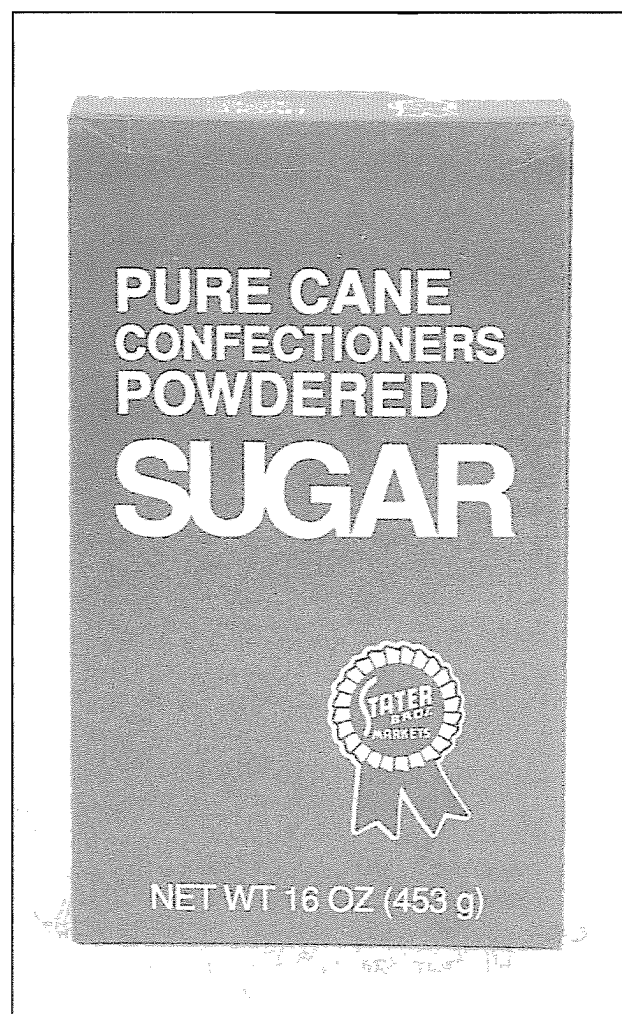

Figure 6-38. A box of powdered confectioner's sugar. It makes a cheap and convenient rocket fuel.
**Powdered sugar** (chemical formula  $C_{12}H_{22}O_{11}$ ), also called **sucrose** or **confectioner's sugar**, is the fine, white sugar used in cake frosting. Figure 6-38 is a photo of a box that I bought at a supermarket. The manufacturers add a small amount of corn starch, but not enough to keep it from being used as a cheap and convenient rocket fuel. Its only drawback is that a rocket propellant made with sugar and a nitrate oxidizer *will not keep*.